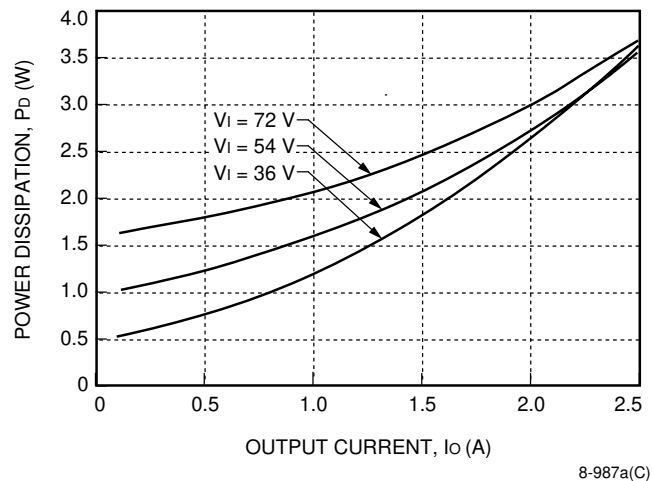

Figure 16. 5 V Output Power Dissipation vs. Output Current
The CW025 Dual Output-Series Power Modules have a separate power stage for each of the outputs. This means that the maximum operating temperature can be predicted quite closely by treating each output individually and then summing the results. Figures 16 through 19 are used to predict the safe operating condition for many different operating and environmental conditions.
1. Find the power dissipated for output 1 by using the appropriate chart (Figures 16 through 18) for a particular output condition ( $I_{O1}$ ).
2. Repeat step 1 for output 2 using Figures 16 through 18.
For example, the CW025AJ-M power module with a 54 V input and 2.5 A output on VO1 and a 1.5 A output on VO2 will have a power dissipated of 3.6 W (from Figure 16) plus 2.1 W (from Figure 16) or 5.7 W total. Using Figure 19, it can be determined that the maximum ambient temperature at natural convection that the CW025AJ-M can operate at is approximately 62 °C.